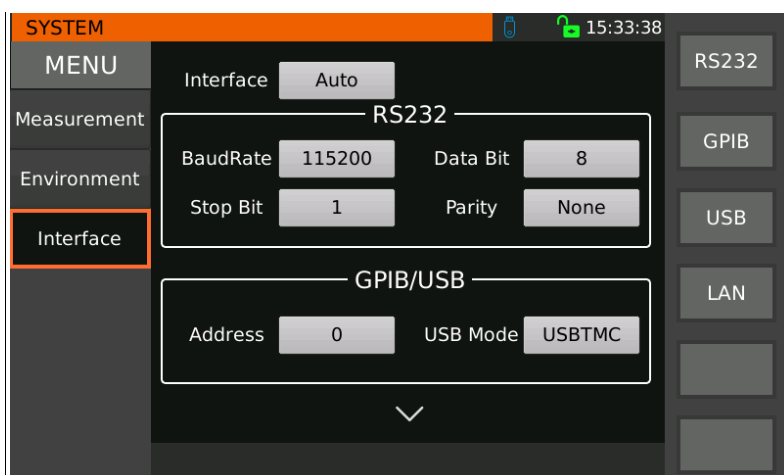
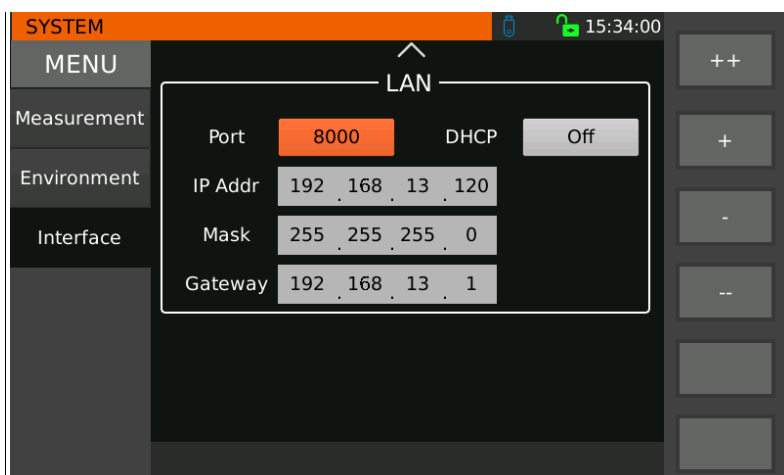

Figure 3-9 System Communication Setup 1
Figure 3-10 System Communication Setup 2
- 2、 Choose to enter the communication related system setting interface shown in Fig. 3-9 and Fig. 3-10 through **[[▲]]** , **[[▼]]** arrow keys or knob or touch the screen directly.
The system communication settings are shown in Figure 3-9 and Figure 3-10.